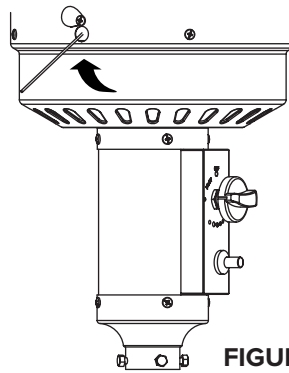

FIGURE 4
- As you are depressing the control knob, place long stem lighter into the ignition hole on the emitter screen to light the pilot (Figure 4).